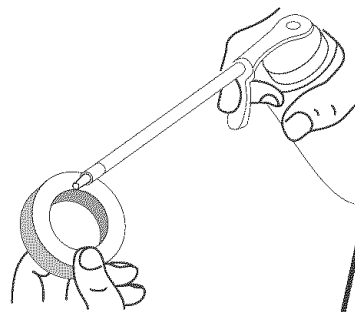

Fig. 27
4. Apply enough clean SAE 30 oil to lightly coat the filter (Fig. 27).